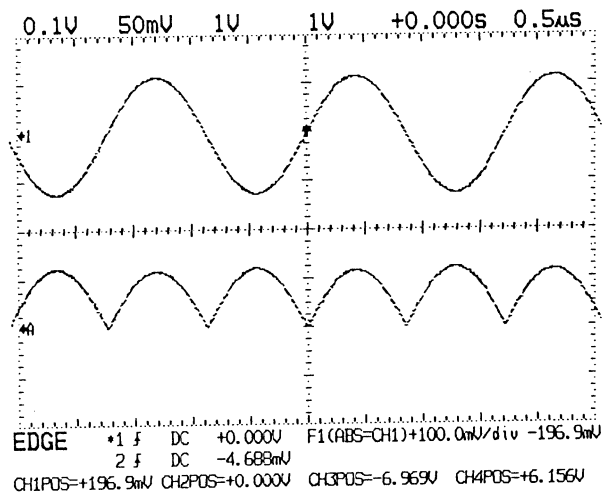

Fig. 6-28 Example of absolute value waveform screen
- Then, the menu disappears and the screen shown in Fig. 6-28 is displayed.